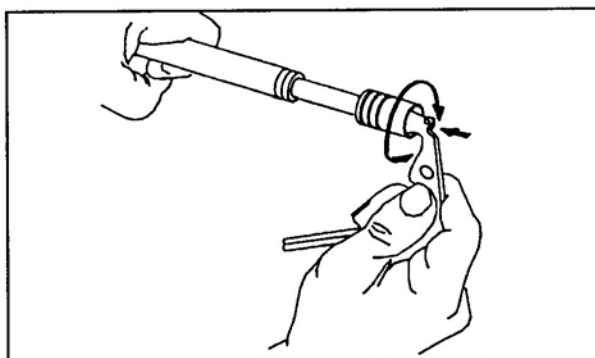

Figure 21. Cleaning of the hole in the piston.
- (4) Clean the hole in the front of the piston by inserting and turning the flat side of the scraper in a full 360-degree circular motion (Figure 21).